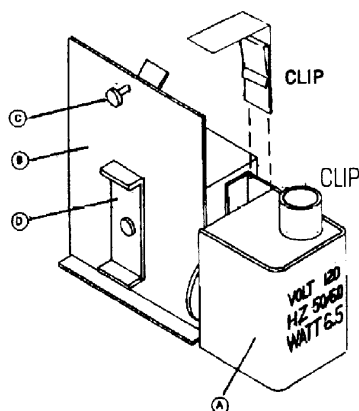

Figure 6
The idle adjuster (D) controls the minimum amount of air that enters the firebox when the flapper door is closed. Adjustment is made by turning the adjuster vertical for zero idle air or horizontal for maximum idle air. It is best to start at a medium setting as shown in Fig. 6.